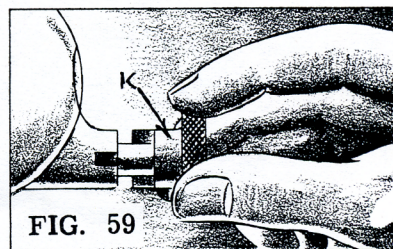

FIG. 59
Movement of the lever beyond this point is limited by a spring pin which is attached to knob (K) (Fig. 59) and engaged in a slot under the hub of the lever. A light pull on knob (K) together with a turn of approximately 180°, withholds the spring pin from the slot which limits its movement. Consequently, the starting lever can now be moved farther to the left and the word "High" placed adjacent to the reference mark. This puts the ram into the high-speed range of movement. To stop the ram, this lever is shifted toward the rear of the machine to a position where "Stop" appears opposite the reference mark. To stop the electric motor which drives the hydraulic pump, it is necessary merely to push its control button.